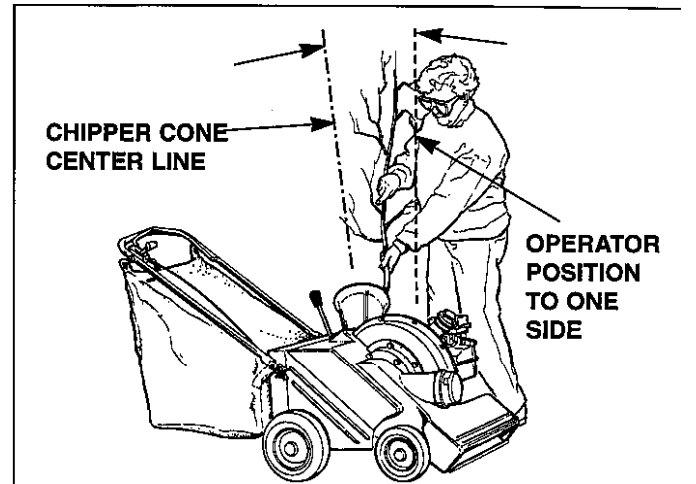

Figure 4. Proper Operator Stance For Chipping
- Always maintain a stable, well-balanced stance to one side of the unit when operating the chipper (Figure 4).